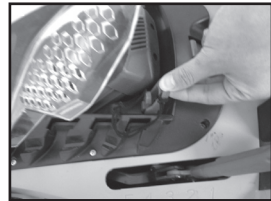

Fig. 13
3. Insert the safety key (15) as shown (Fig. 13).